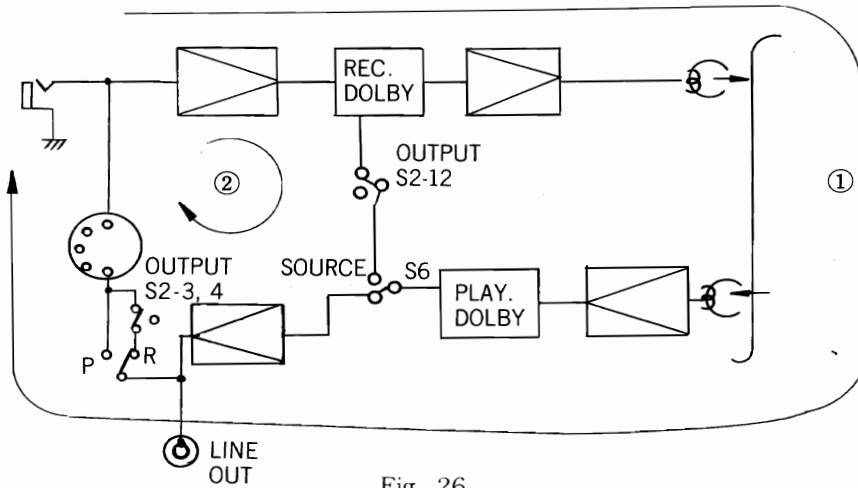

Fig. 26
output if this occurs. Abnormal oscillations occur during recording as a result of loops (1) and (2) shown in Fig. 26. To prevent this, output is cut by switch S2 when recording.